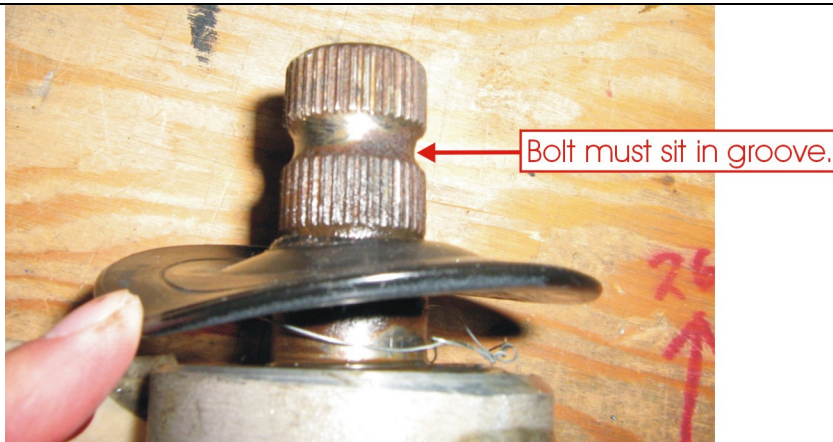

Figure 4: Transfer gearbox shaft.
10. The assistant must now lower the steering column and clamp into U-Joint Assembly. Use Bolt (PN 11B06032) and Nut (PN 41N06000). Torque bolts between 30 to 35 ft-lbs. When bolt is installed, it must sit in the groove on the steering column shaft. Similar to Figure 4.
- j. The assistant must now lower the steering column and clamp into U-Joint Assembly. Use Bolt (PN 11B06032) and Nut (PN 41N06000). Torque bolts between 30 to 35 ft-lbs. When bolt is installed, it must sit in the groove on the steering column shaft. Similar to Figure 4.
- g. The assistant must now lower the steering column and clamp into U-Joint Assembly. Use Bolt (PN 11B06032) and Nut (PN 41N06000). Torque bolts between 30 to 35 ft-lbs. When bolt is installed, it must sit in the groove on the steering column shaft. Similar to Figure 4.